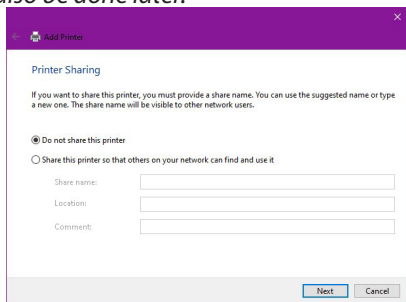

Figure 29
13. Choose whether or not to share the **Printer** with other network users. Click **Next**. (Figure 29)